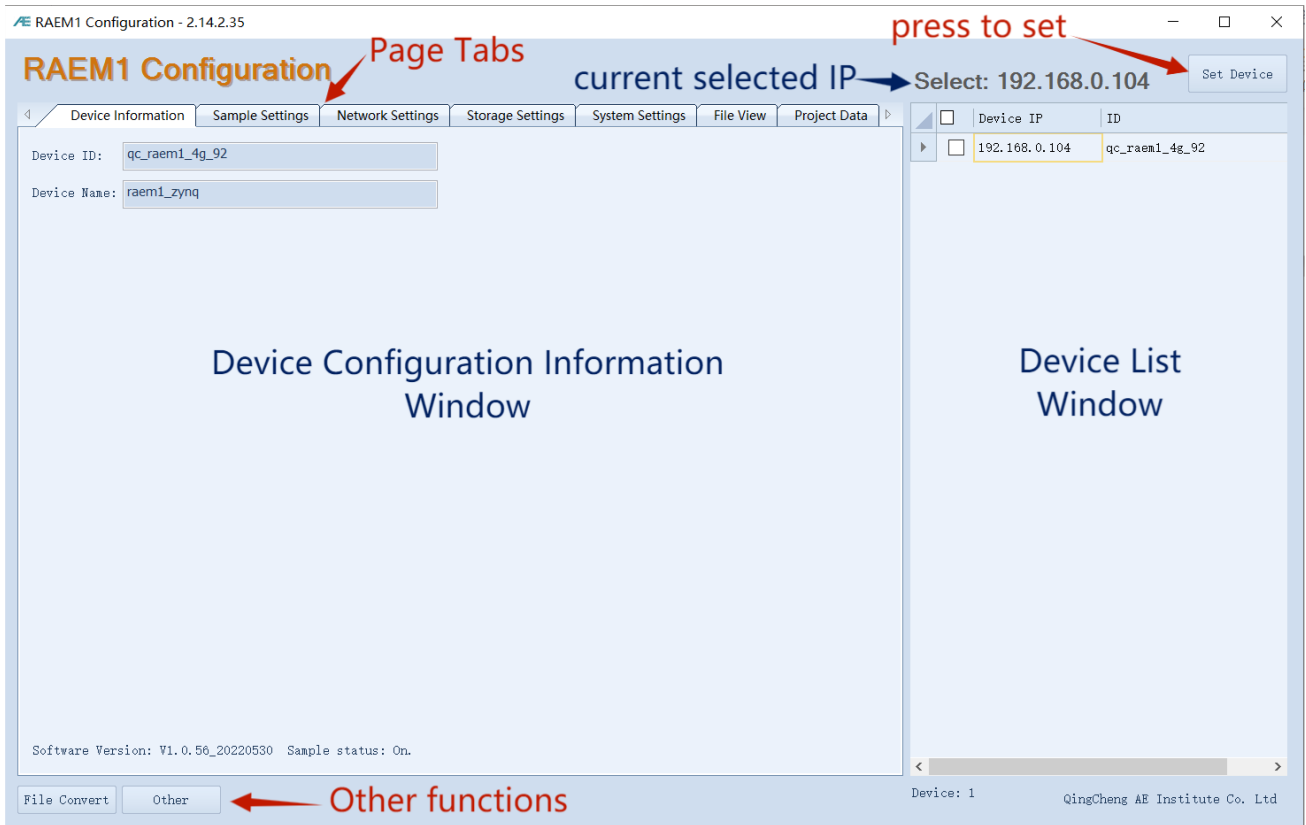

Fig. 4-4 RAEM1 Configuration Main Interface
② The RAEM1 Configuration software main interface is as shown in Figure 4-4. It mainly consists of two big parts, the **Device Configuration Information** on the left window and the **Device List** including all the connectable devices on the right. The tabs of different pages are on top of the device configuration information window. Click on the tabs to switch to different pages. On top of the device list on the right shows the current selected device IP. All the device information on the left window is from this current IP device. The “**Set Device**” button on the top right corner is to send the configuration information to the selected devices. Normally once the configurations are sent to the devices, it will take effects immediately, except for some settings with the “**Modify**” buttons next to them. On the bottom left corner there are two buttons, “**File Convert**” and “**Other**”. In the “**Device Information**” page, it shows the device firmware version and the sampling status on the bottom left corner of the device information window.